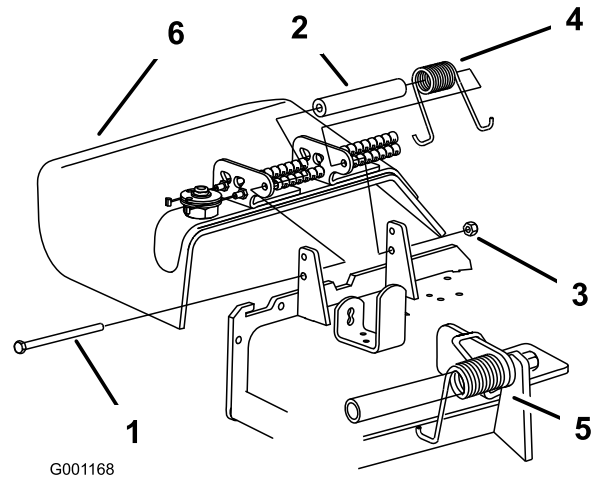

Figure 2
2. Install bolt and nut in the lower hole. Place the end of the spring around the grass deflector (Figure 2).